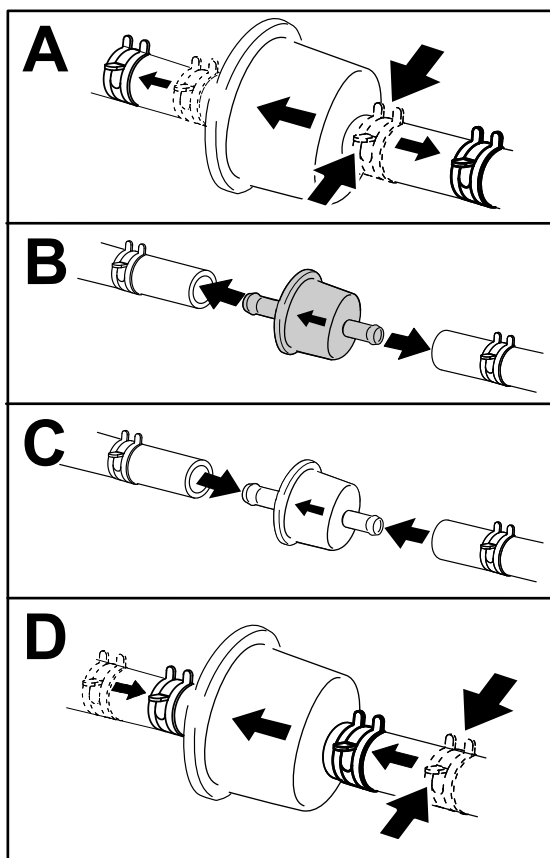

Figure 46
3. Replace the filter (Figure 46).